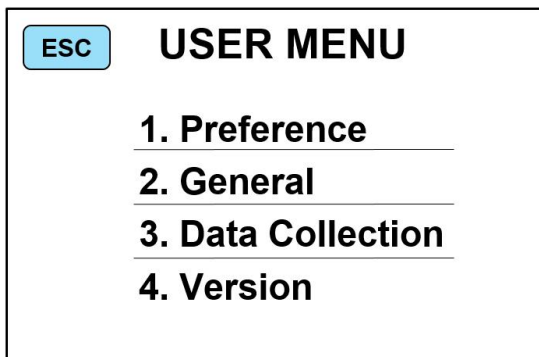

Figure 26
1) Press the “” key to enter the main interface of USER MENU, as shown in Figure 26 below, Press “**2.General**” to enter into GENERAL SETTING interface, as figure 47.